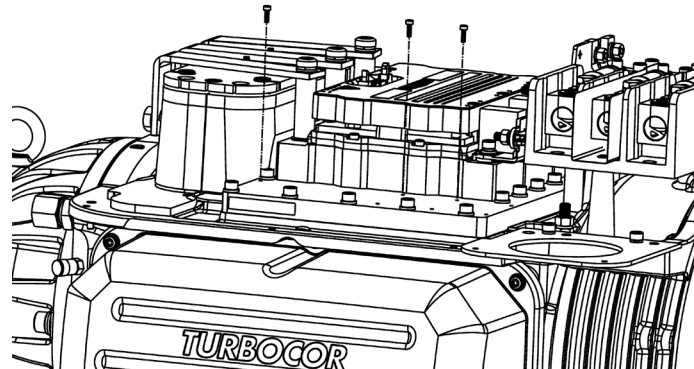

Figure 11 – Rear Open Frame DC-DC Fasteners
5. After the removal of the Open Frame DC-DC Converter, completely remove the three (3) DC-DC Converter fasteners closest to the Inverter. Refer to Figure 11 (Rear Open Frame DC-DC Converter Fasteners).